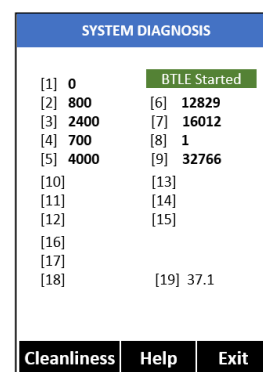

Figure 8.
Press **Diagnosis** ( or ) to launch the **SYSTEM DIAGNOSIS** screen where raw measurement data are displayed (Figure 8). The information has no use for normal operation, but instead is used for device troubleshooting. Provide an image of both the **DEVICE INFORMATION** screen and the **SYSTEM DIAGNOSIS** screen when you contact Pyxis (service@pyxis-lab.com) for troubleshooting your device or call +1 (866) 203-8397.
4. Allow 5–10 seconds for the message in the top-right corner of the display change from **Starting BTLE...** to **BTLE Started** (Figure 8).